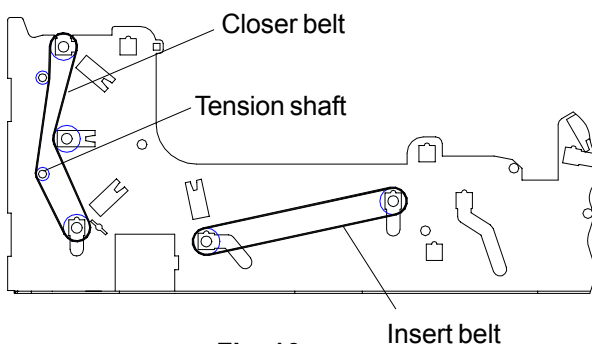

Fig. 16
4. Remove gear, pulleys, 'E' clips, drive pin and 'T' bearings from both ends of both shafts indicated in Fig. 16 above.
8. Remove pulley, 'E' clips, drive pin and 'T' bearings from both ends of upper and lower shafts indicated in Fig. 16. Note that the green knob and gear on the RH side need not be removed.